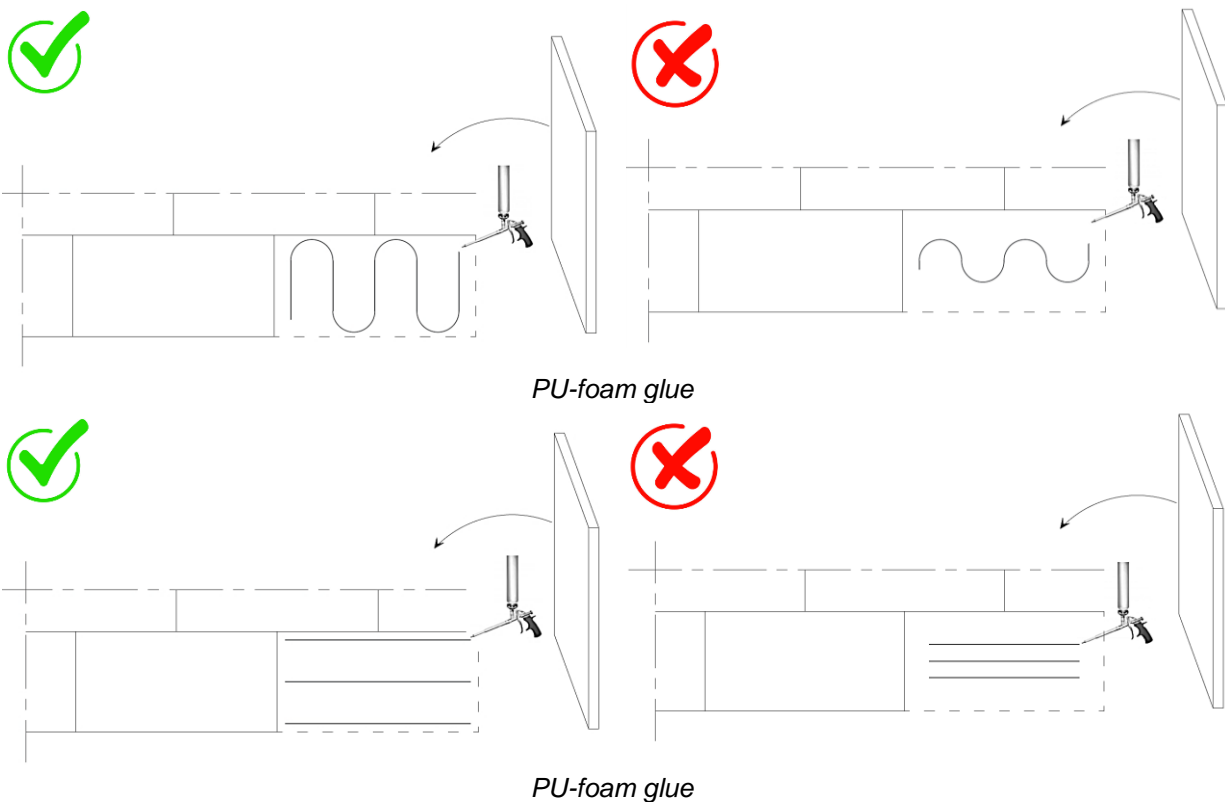

Figure 6: Adhered build-up - Gluing pattern – PU foam glue (principle drawings³)
- (1) Compatibility of the glue with the insulation boards has to be confirmed by the manufacturer of the glue and/or Recticel Insulation. In case of doubt, please contact the technical service team of Recticel Insulation at technicalservices@recticel.com
- (2) Solvent based glues which might damage the facer or the foam of the insulation boards, cannot be used!
- (3) The glue has to be compatible with the substrate and/or waterproofing membrane as well. In case of renovation, always check the condition of the existing waterproofing membrane which will be covered. Make sure this is a substrate which allows for adhered applications.
- (4) In case of unevenness in the substrate (e.g. old bituminous waterproofing membrane with thick overlaps) it's recommended to use a foaming type of glue to level out these imperfections.
- The glue needs to be applied according to the glue manufacturer's instructions. PU-glues are applied in an S-shape pattern or in straight lines (see Figure 6).